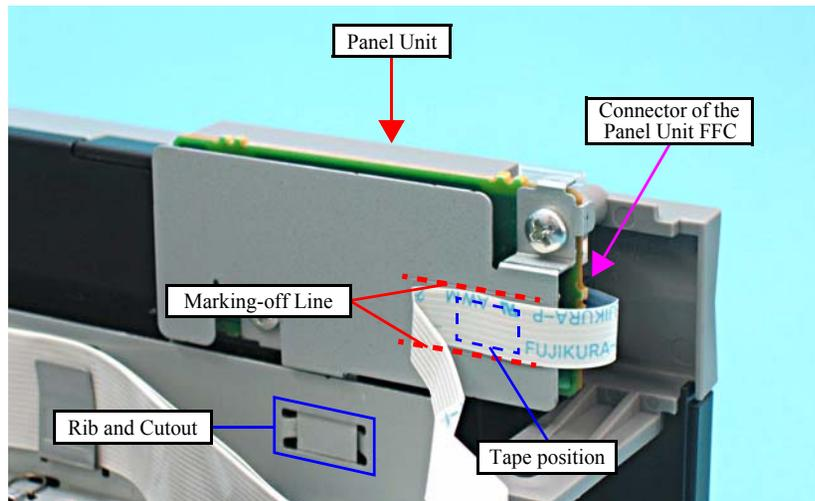

Figure 4-18. Removing Panel Unit
- When routing the Panel Unit FFC, tape the FFC to the Panel Unit with a double-sided tape. Both edge of the Panel Unit FFC must be aligned with the marking-off line as shown in Figure 4-18.